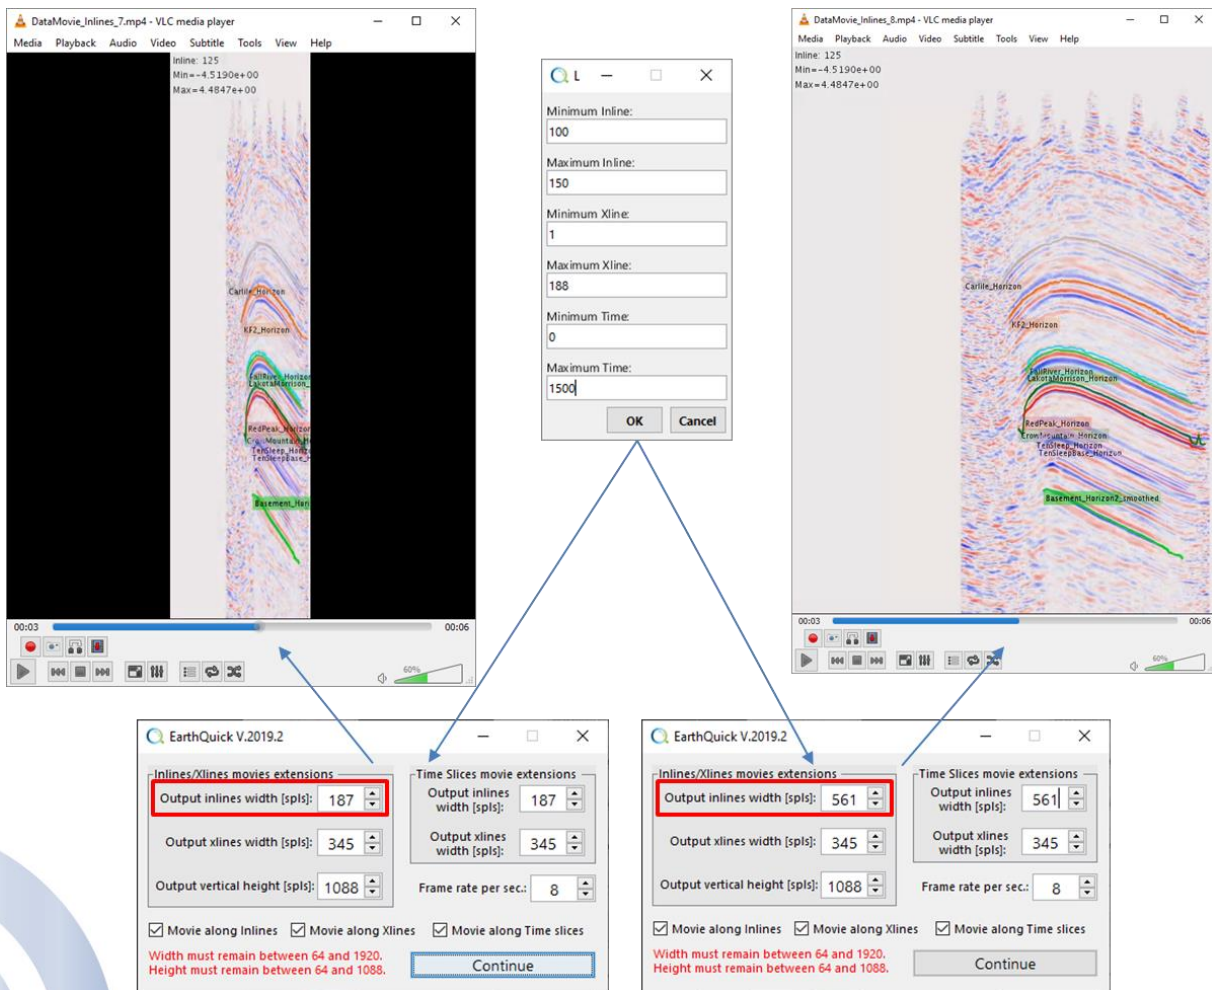

Figure 58: Data Movie Maker settings influence on results.
- Selected grids and faults (in the folder tree) shall be automatically added to the movies with names annotations (see Figure 58).
- Current color scale in use for Volumes and Sections display shall be used (for example Blue-White-Red in Figure 58).
- Figure 58 shows 2 cases: